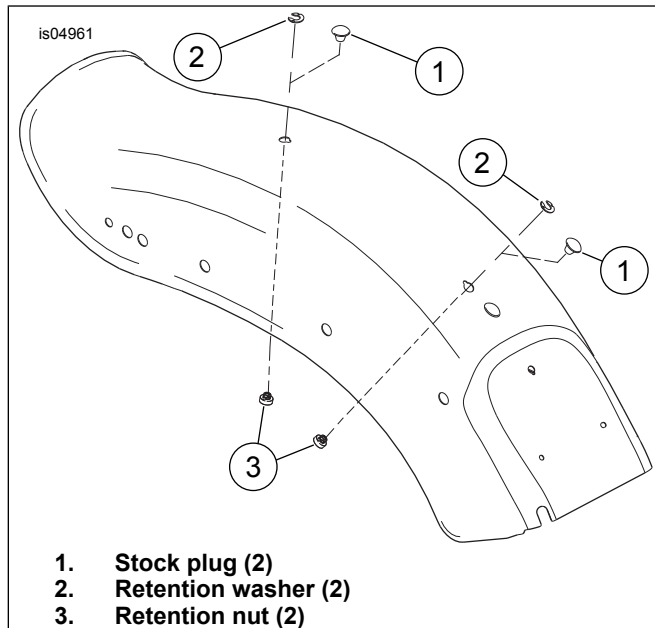

Figure 1. Remove Plugs and Install Retention Nut
2. See Figure 1. Remove two stock plugs (1) from the top of the rear fender.